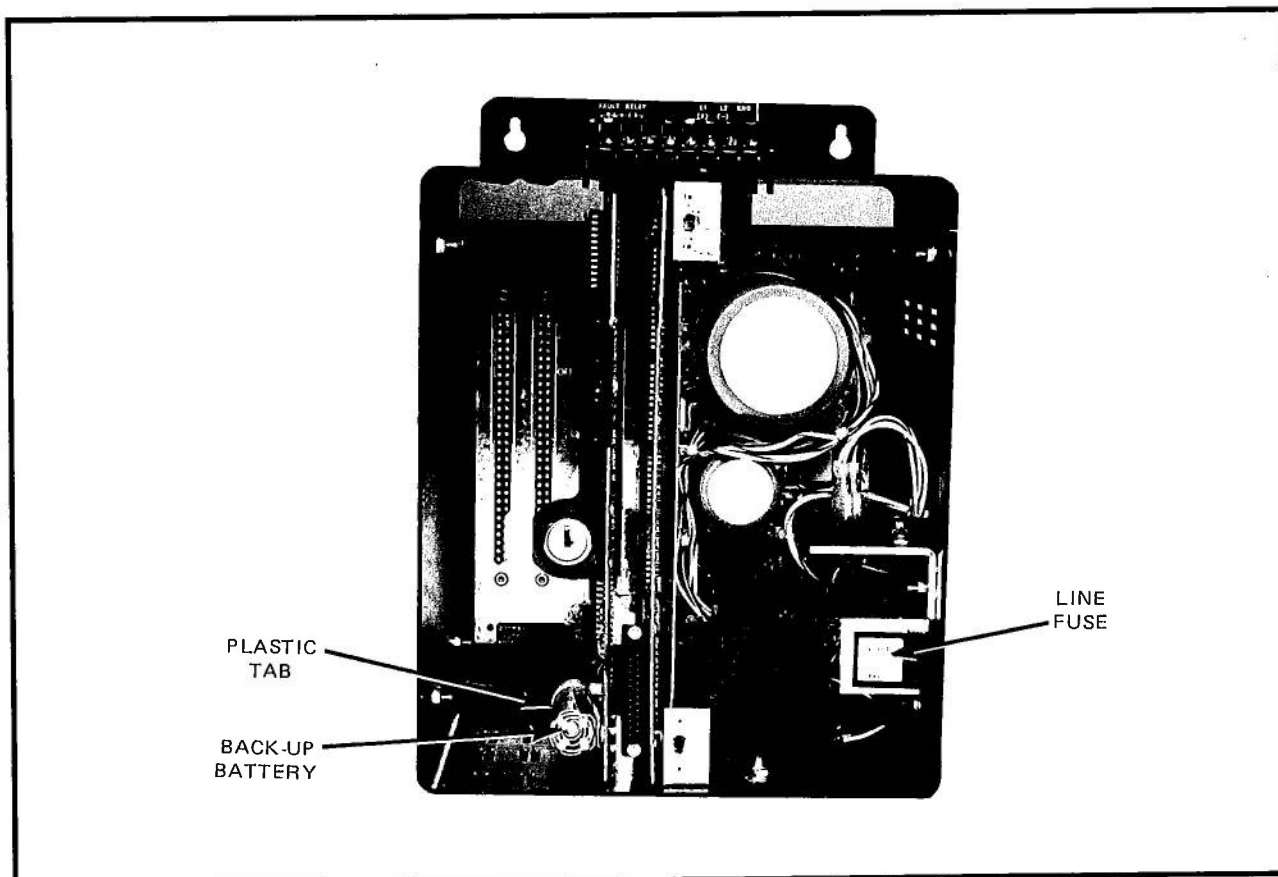

Figure 7-7. PC-900 Processor without Faceplate
4. If this unit is to be immediately placed into service, activate the backup battery. To activate the battery, locate the plastic tab under the end of the battery. See Figure 7-7. Pull this tab to remove it, thus, activating the battery.
Depending on which operating voltage is selected, check to see that the appropriate fuse (listed in Table 7-2) is installed in the front panel fuse holder marked **AC LINE FUSE**. (See Figures 7-7 and 7-8.)